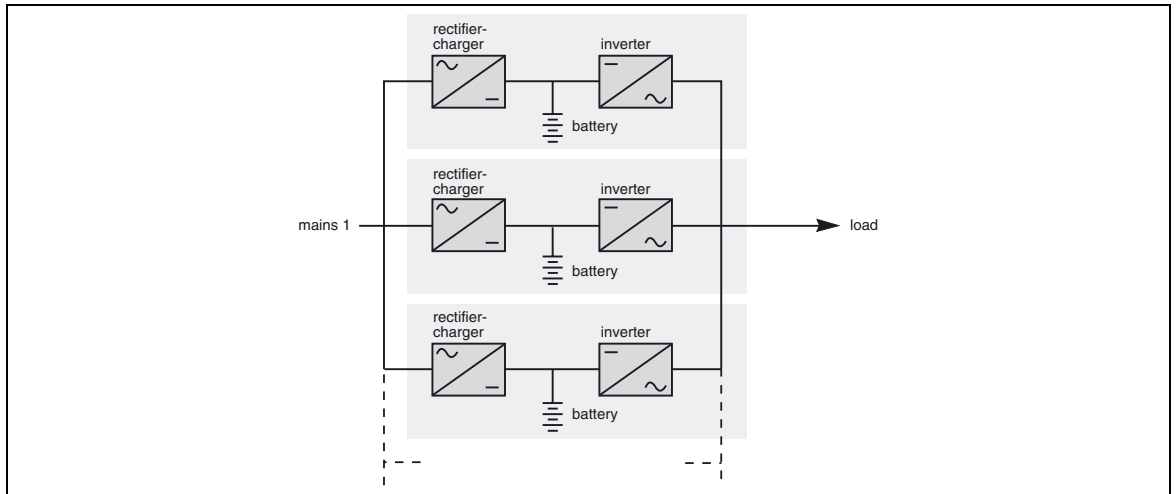

Fig. 6
- Frequency converters with backup power: (figure 6)